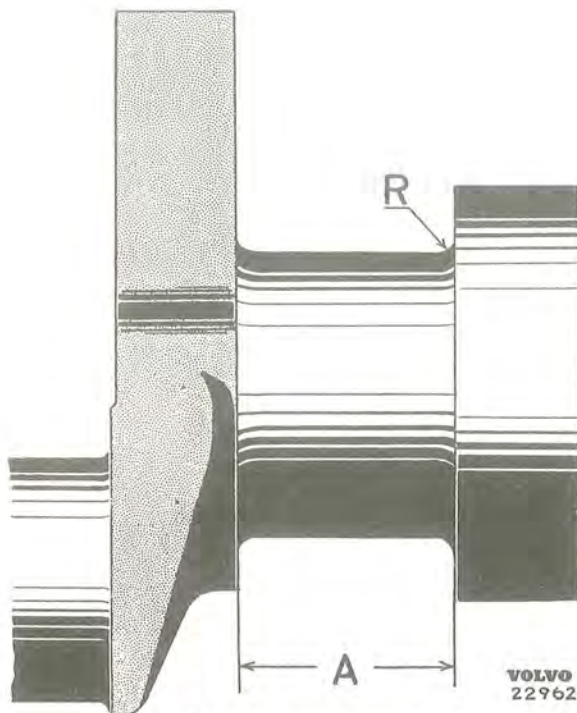

Fig. 2-27. Bearing journal
The fillets at the ends of the journals should have a radius of 2.0—2.5 mm (.080—.100") on all journals, see Fig. 2-27. The width measurement (A) for the pilot bearing depends on the size of the journal and should be ground in order to obtain the correct measurement.